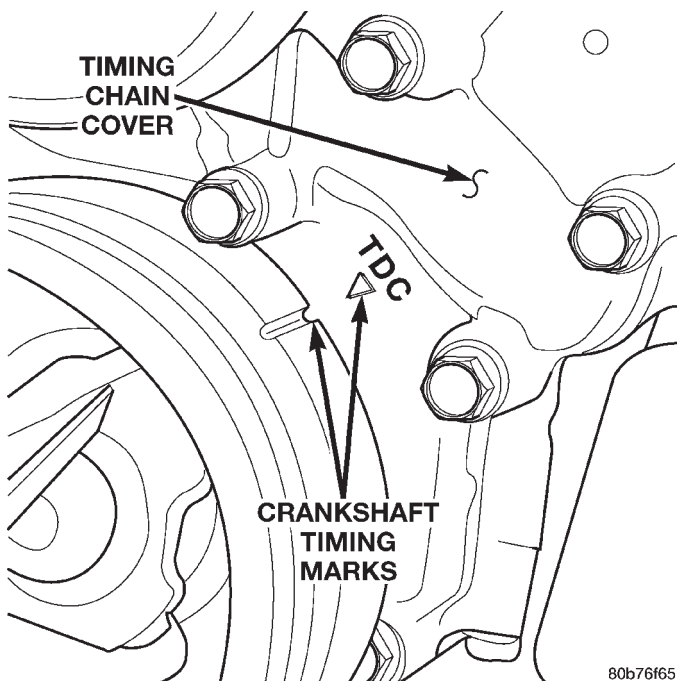

Fig. 4 Engine Top Dead Center (TDC) Indicator Mark
(1) Remove the cylinder head covers. Refer to the procedure in this section.
(2) Using a mirror, locate the TDC arrow on the front cover (Fig. 4). Rotate the crankshaft until the mark on the crankshaft damper is aligned with the TDC arrow on the front cover. The engine is now at TDC.